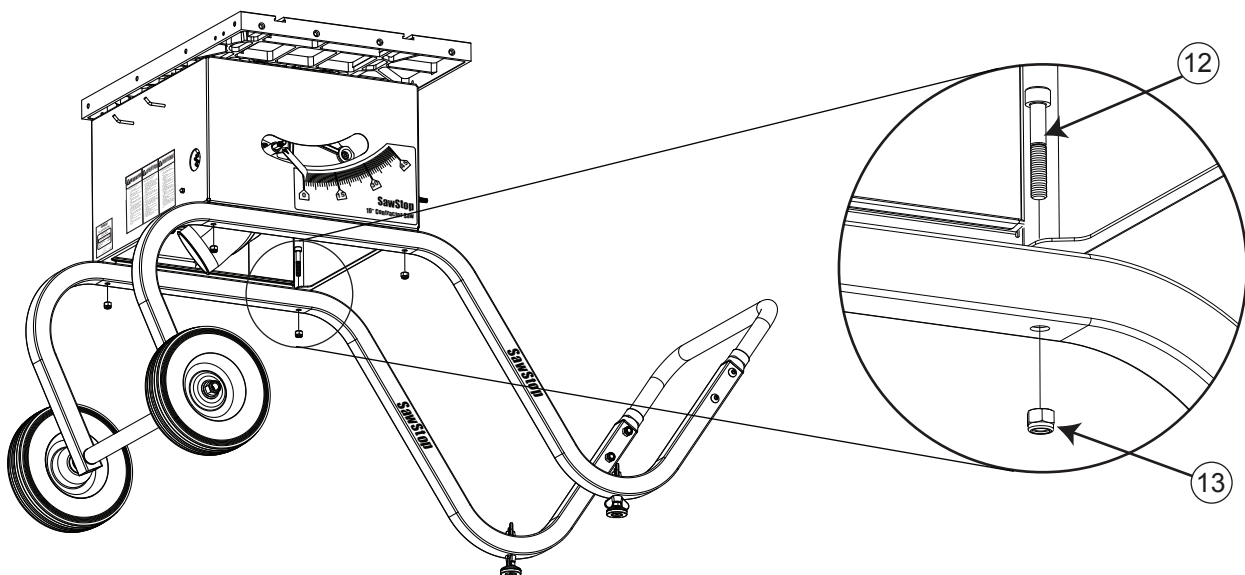

Fig. 11
11. Align the mounting holes in the bottom corners of the saw with the mounting holes in the top surfaces of the job site cart. Mount the saw to the job site cart using four M8 x 50 socket cap bolts and four M8 lock nuts. Insert the bolts down through the mounting holes in the bottom corners of the saw and through the four holes in the job site cart frame (see Fig. 11). Fully tighten the nuts using a 13 mm wrench and a 6 mm hex key.